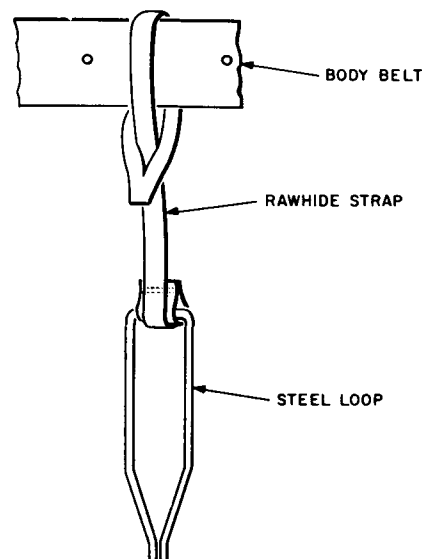

Fig. 1 — B Handline Carrier
2.05 When it is necessary to carry a handline up a pole or ladder, secure one end of the rope to a B Handline Carrier (Fig. 1) attached to a body belt. The steel loop of the B Handline Carrier is designed to release the handline if it is placed under tension while the employee is climbing a pole or ladder. If no B Handline Carrier is available, double the end of the handline back on itself for a distance of approximately 1 foot and place this loop under the side or back of the body belt so that it will be readily released if placed under tension.